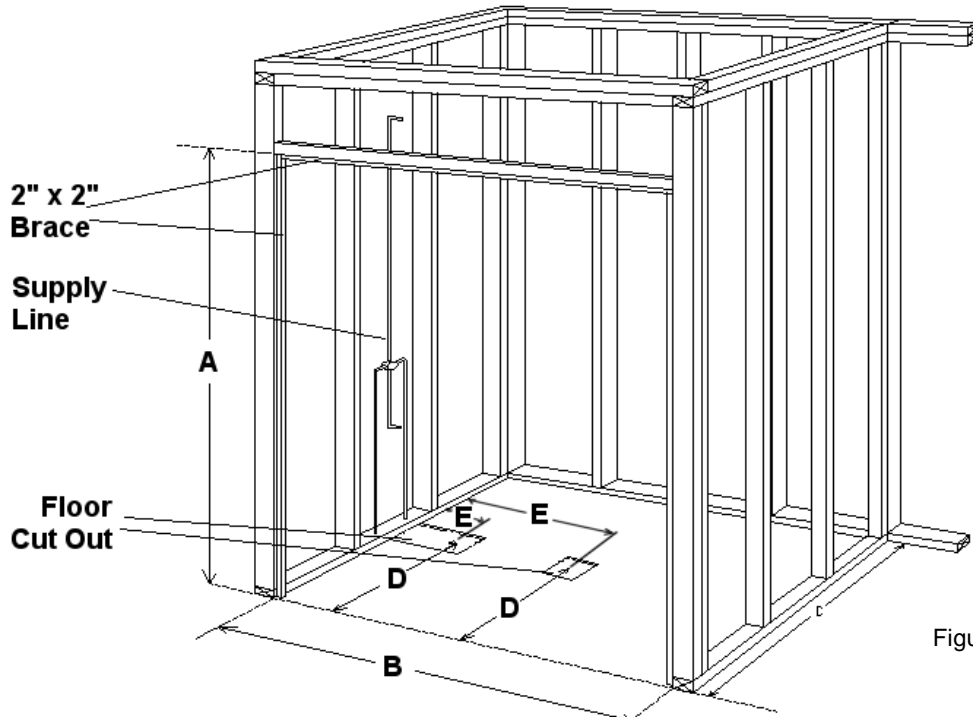

Figure 2
8. Finish installation of drywall, or other wall covering, up to edge of drywall recess, as shown in Figs. 2, 3 or 4.